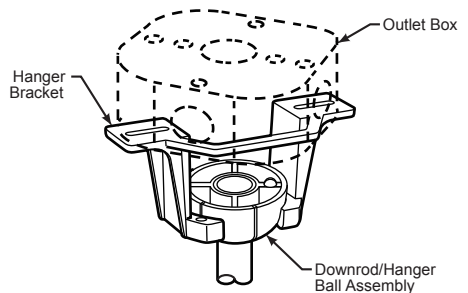

Figure 4
- 4. Lift away the motor coupler washer and upper housing cover from the motor assembly and set aside. (Figure 4)
4. Thread downrod into the downrod support on top of the motor. Install the clevis pin by aligning the holes in the downrod support with holes in the downrod. Secure clevis pin with hairpin clip. Reinstall and tighten the two set screws with nuts, removed in step 2 of How to Assemble Your Ceiling Fan Blades, in the downrod support. (Figure 4)
2. Carefully lift the fan and seat the downrod/hanger ball assembly on the hanger bracket that was just attached to the outlet box. Be sure the groove in the ball is lined up with tab on the hanger bracket. (Figure 4)
- 3.** Connect wires as indicated. (Figure 4)
4. Connect the 2 single pin connectors from the LED assembly to the 2 single pin connectors from motor assembly. (Figure 4)
- 4.** To set the remote code with a small screwdriver or ball point pen (neither included), slide dip switches firmly up or down. (Figure 4)